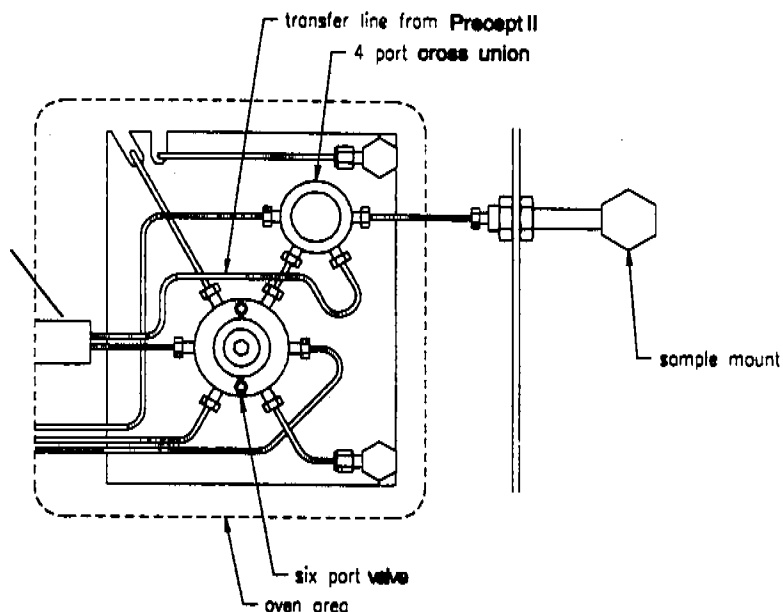

Figure 3-10 Precept II-to-3000 Transfer Line Connection
8. Slide Precept II's heated transfer line (Figure 3-10) through the hole in the top part of the 3000's rear panel. Allow Precept II's heated transfer line to rest on top of the 3000-to-GC transfer line.